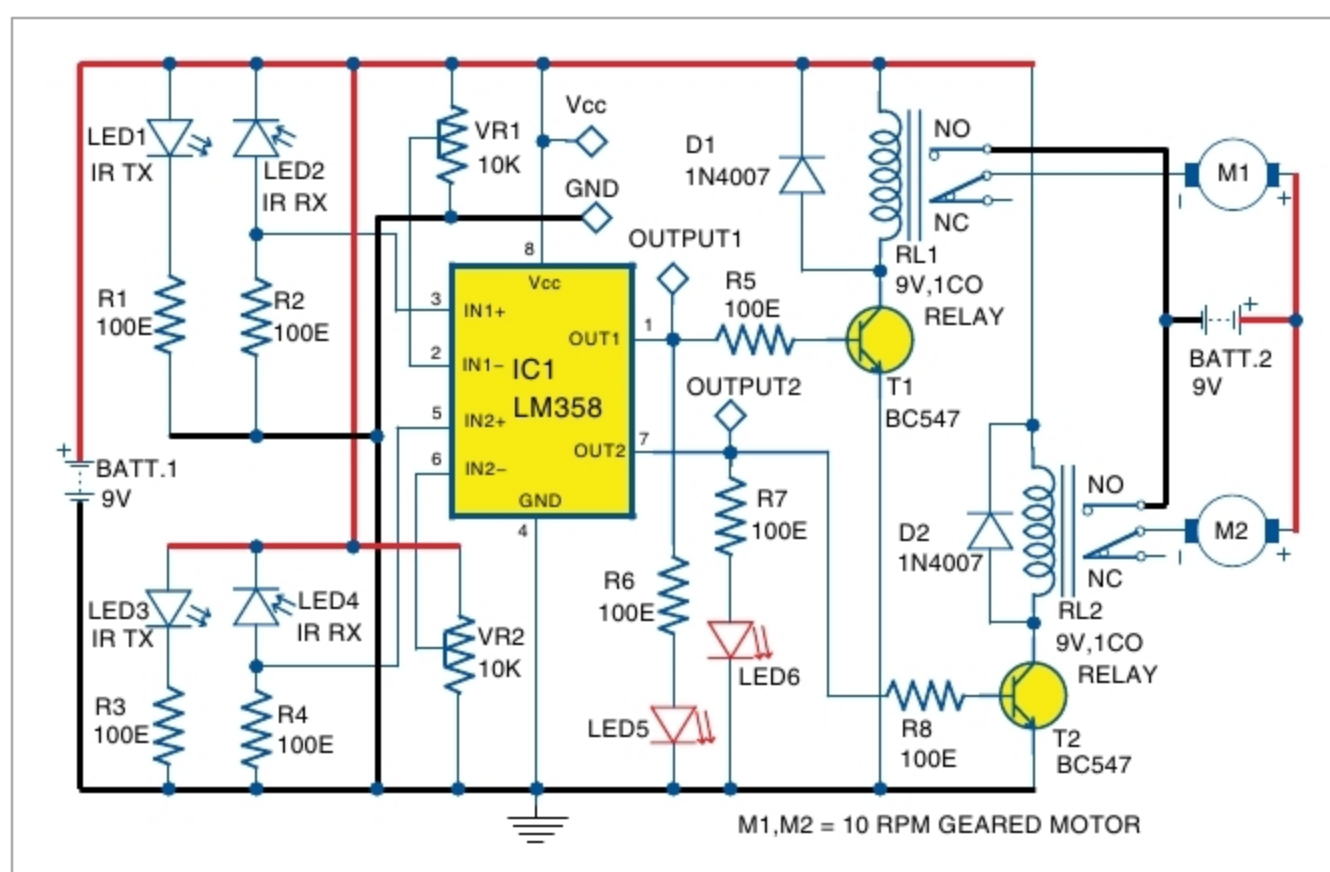

Fig. 3: Circuit diagram of line follower robot using LM358
The circuit diagram of the line follower robot is shown in Fig. 3. It is built around infrared (IR) TX LEDs (LED1 and LED3), two IR RX photodiodes (LED2 and LED4), dual-operational amplifier LM358 (IC1), two rectifier 1N4007 diodes (D1 and D2), two LEDs (LED5 and LED6), two single-changeover relays (RL1 and RL2), two